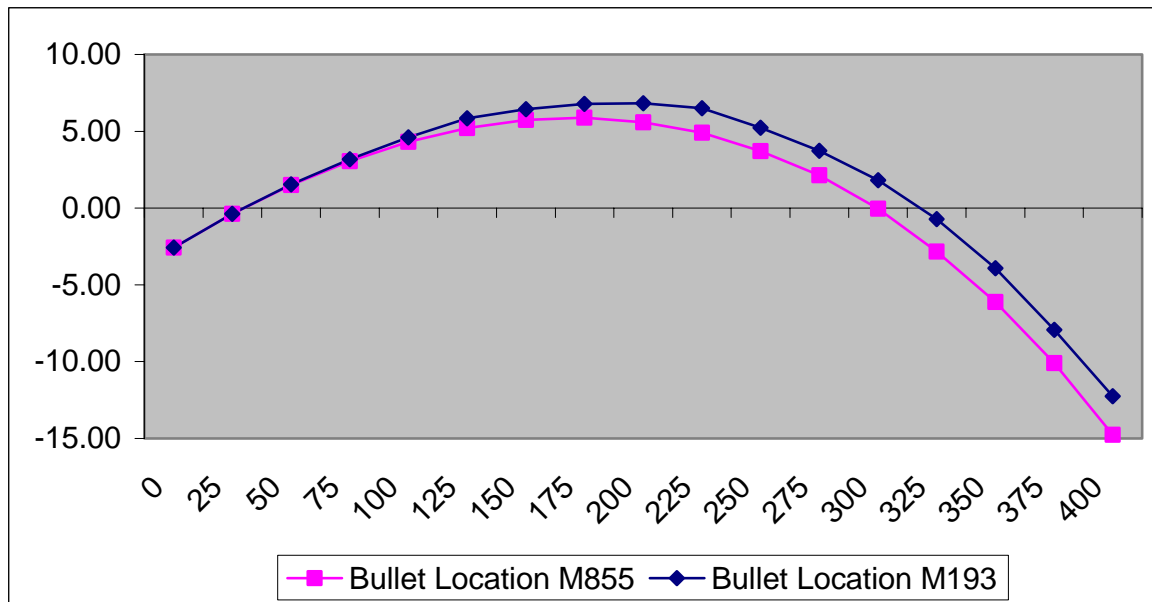

Figure 5-36. M855 zeroed at 25 meters; M193 fired using M855 zero.
*(b) If an M16A2/A4 rifle has been zeroed at 25 meters using M855 ammunition and M193 ammunition is fired without re-zeroing, then the difference in the impact of the round on target varies between ammunition as shown in Table 5-7 and Figure 5-36.